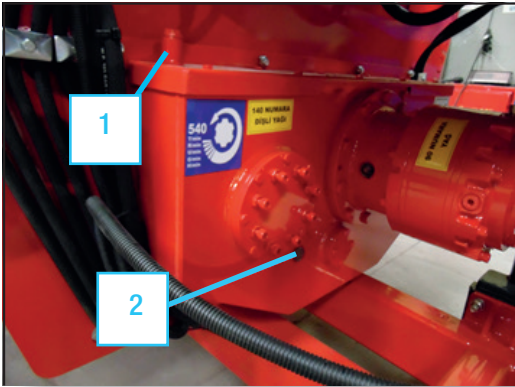

Figure 24- The Gear case
Gear case: After the first 50 hours of operation, drain initial oil, preferably warm. To drain the oil remove the drain plug located on the bottom of the gear case. Flush out the gear case with an approved non-flammable, non toxic solvent and refill with GEAR OIL SAE140EP/3.5 from the place which is shown in figure 24 with number one (1) to level of the sight plug, number two (2).